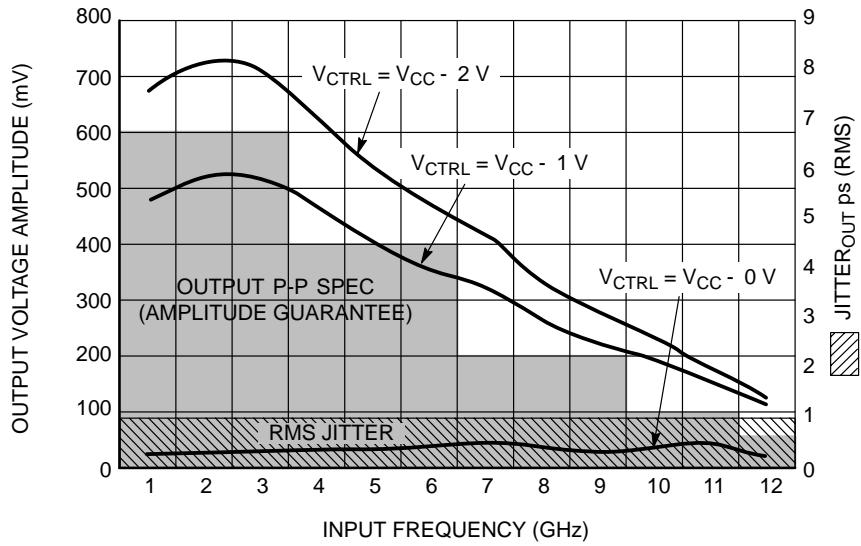

Figure 9. Output Voltage Amplitude (V_{OUTPP}) / RMS Jitter vs. Input Frequency (f_{in}) at Ambient Temperature (Typical)
26. Conditions include input amplitude of 500 mV and $V_{CTRL} = V_{CC} - 2\text{ V}$. Minimum output amplitude guarantee of 100 mV (see Output P-P Spec in Figure 9).
34. Conditions include input amplitude of 500 mV and $V_{CTRL} = V_{CC} - 2\text{ V}$. Minimum output amplitude guarantee of 100 mV (see Output P-P Spec in Figure 9).